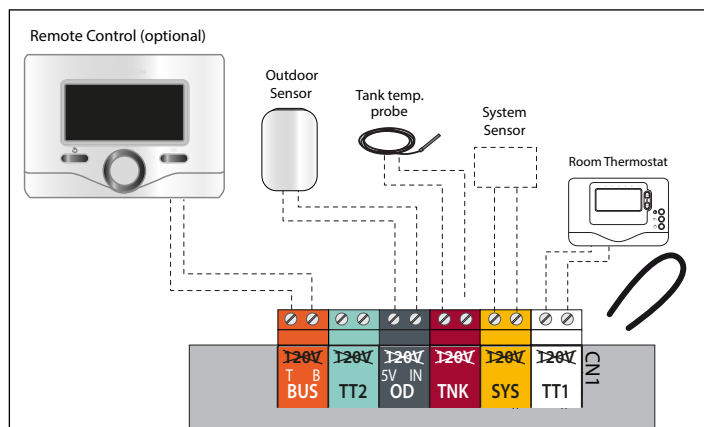

**Figure 50 - Access to Low Voltage Wiring Connections**
6. Open the control panel cover to have access to the main PCB. See Figure 50.